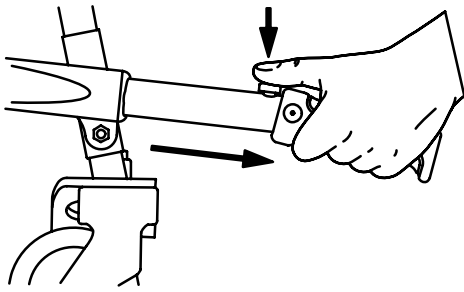

Figure 6 – Foot end lift handles
2. Foot end operator: Push the red release buttons to extend the foot end lift handles and pull the handles out until they stop (Figure 6). Release the buttons to lock the handles.